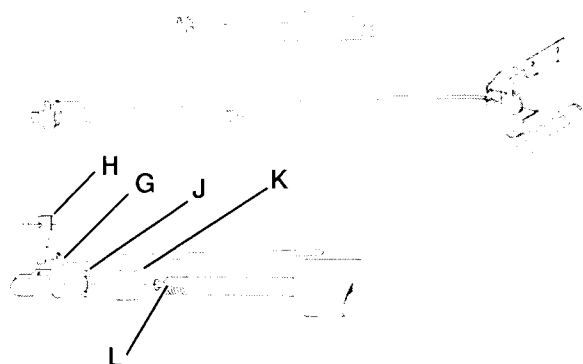

Figure 2
3. Use the 17 mm open end wrench to unscrew the lock-nut (J) holding the release head (G) (see figure 2), while gripping the release head with adjustable pliers.
4. Unscrew and remove the release head (G) and its lever (H) (see figure 2).
5. Remove the lock-nut (J) and store the spacer (K) in a safe place (see figure 2).
1. Press the gas cylinder valve (L) (see figure 2) on the floor so that the rod comes out completely (to be done on both cylinders during reassembly).
2. Mount the spacer (K), the lock-nut (J) and then the release head (G) without tightening it (see figure 2).
3. Position the release lever in the release head (G) then tighten it slightly (without straining the valve) until there is contact with the cylinder valve (L).
5. Using a 17 mm open end wrench, screw the lock-nut, (J) (see figure 2) while gripping the release head with the adjustable pliers.
6. Check the alignment of the head hole of the release lever (G) (see figure 2) and the valve yoke. Adjust if necessary by rotating the cylinder.